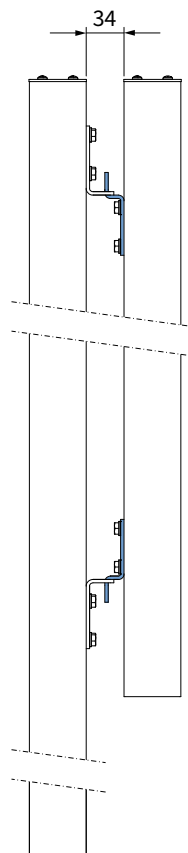

Figure 2.6 Location wall linking
For installation possibilities of the brackets see figure 2.6 below.
2. Mount the coupling block (a) loosely to one side of the bracket (b). Do this for all four brackets. Slide two coupling blocks in the slot of the windscreen and two in the slot of the loose upright. The way depends on the way you want to link, see the possibilities in figure 2.6 at page 13. Determine the exact height at which the coupling blocks must be screwed. Tighten the screws.